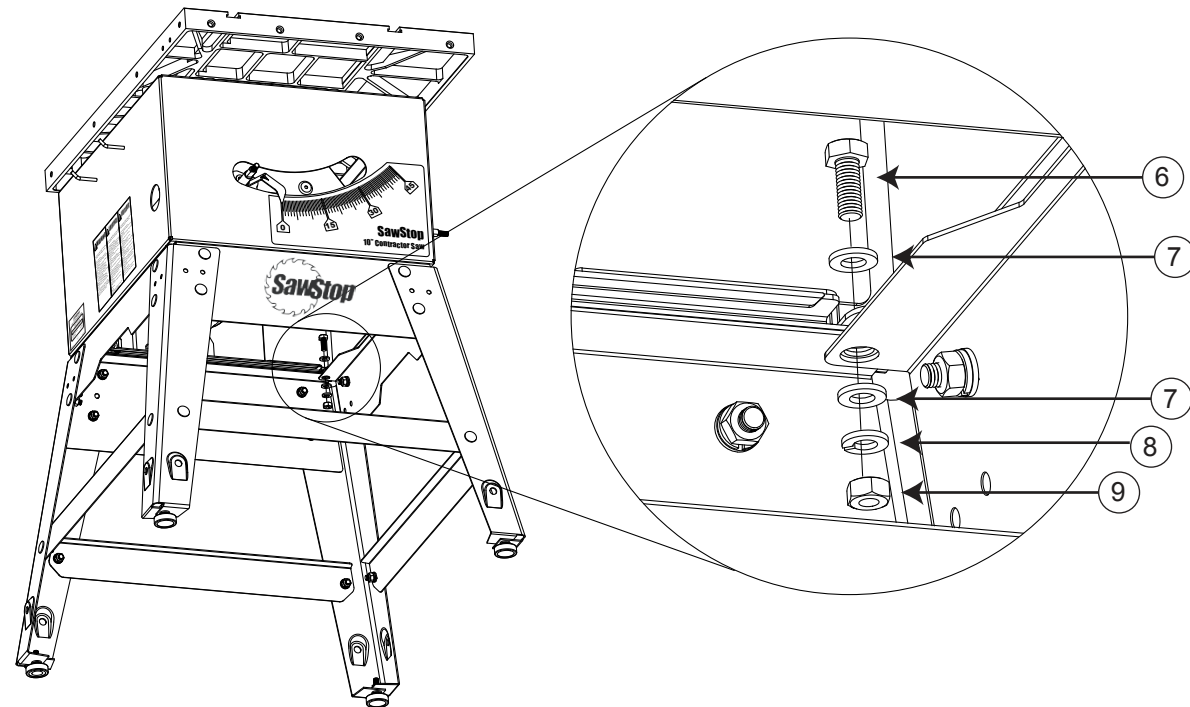

Fig. 12
- Mount the cabinet to the stand using four M8 x 20 hex screws, eight M8 washers, four M8 lock washers, and four M8 hex nuts. Insert the hex screws down through the mounting holes in the bottom corners of the saw and the top corners of the stand, and thread the hex nuts on from the bottom (see Fig. 12). Make sure to place a washer between the screw head and the saw and to place a washer and lock washer above each nut with the lock washer next to the nut, as shown. Fully tighten all of the nuts using two 13 mm wrenches.